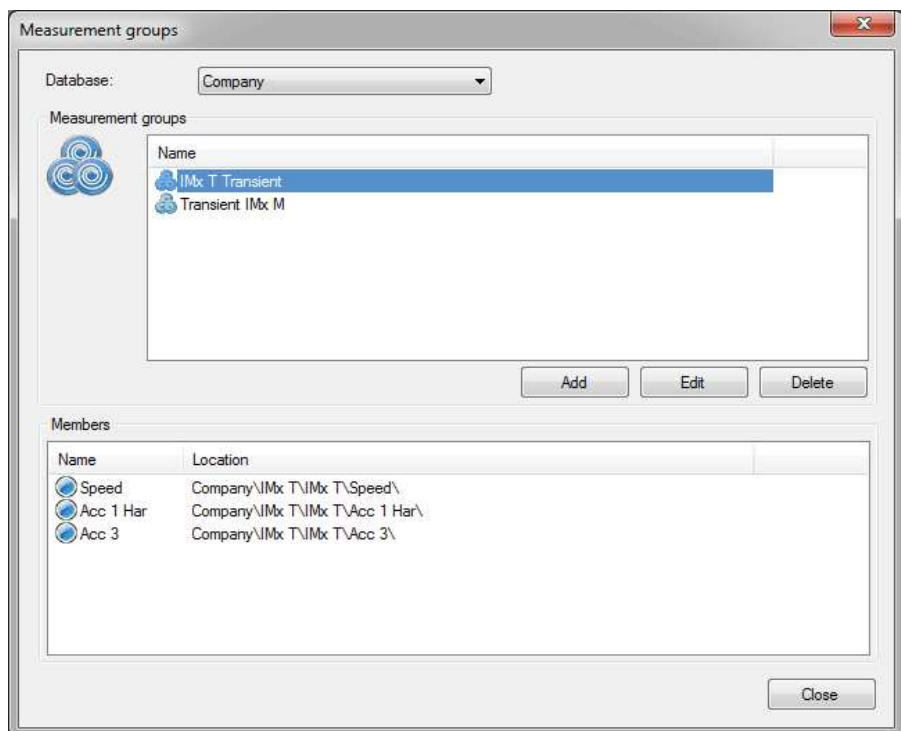

Fig. 10. Measurement groups window.
- 10 The new group will be in the list and you can then click **Close** (→ **fig. 10**).